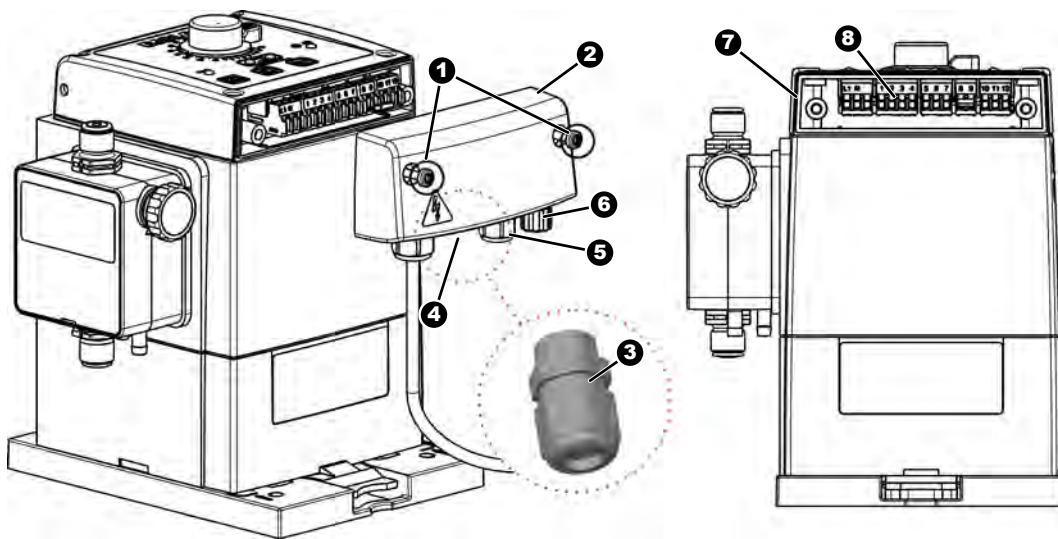

Fig. 9: Electrical installation of 'EcoUp'
1. ➤ Remove both housing screws (Fig. 9 , 1).
2. ➤ Remove the terminal cover (2).
3. ➤ To connect the dosage rate output or alarm output, mount the cable union (3) from the pump accessories pack at the appropriate location (4), feed through the cable, tighten the threaded union and connect the cable wires according to the terminal diagram.
4. ➤ To connect to the pulse input or enable input, pass the cable through the corresponding cable union (5), tighten the threaded union and connect the cable wires according to the terminal diagram.
5. ➤ Connect the connection for the level input to the socket (6) provided for this purpose.
6. ➤ After the electrical installation has been completed, fit the terminal cover (2) back onto the housing.
The terminals can be accessed after removing the terminal cover (Fig. 9 , 2).